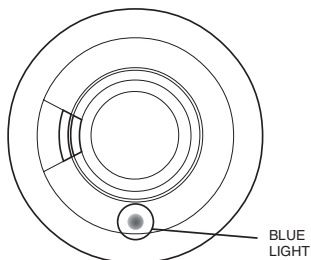

Figure 2b
7. When in the House Code mode, the blue light (on the front of the Alarm - see figure 2b) will flash a number of times every 5 seconds to indicate:
If the blue LED (see figure 2b) on the Ei605MTYRF flashes once every 10 seconds it indicates that the RF module battery is depleted and the RF module must be replaced.